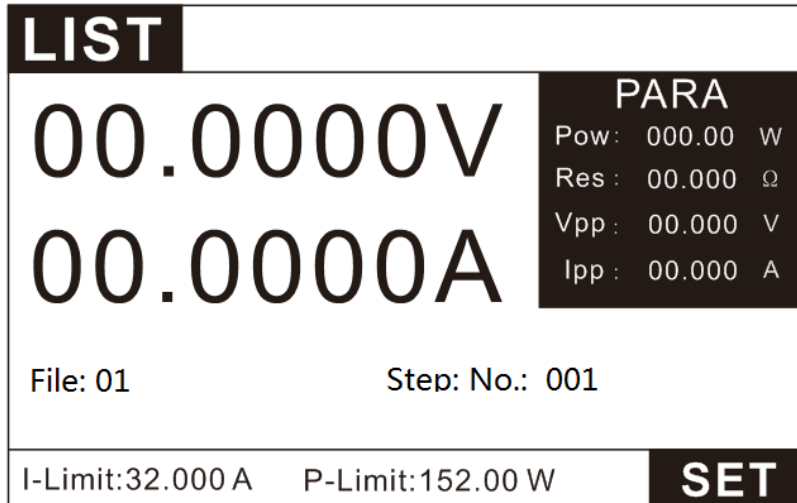
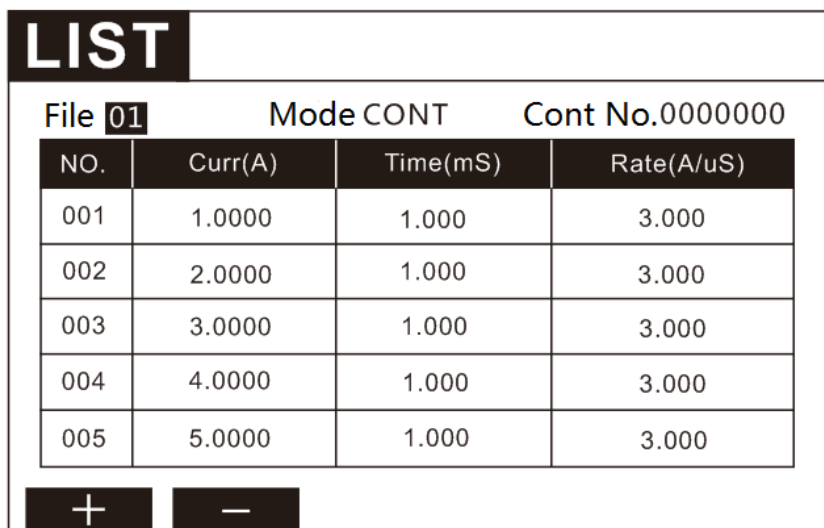

Figure 3.5 LIST mode test Page
Figure 3.6 LIST file edit Page
2. In Figure 3.5, press the key **SET** to enter the setting interface, as shown in Figure 3.6.
3. Select the desired file number by pressing the key +/-, as shown in Figure 3.6
6. Press the key ADD to increase the number of steps and set the parameters for each step, as shown in Figure 3.6.